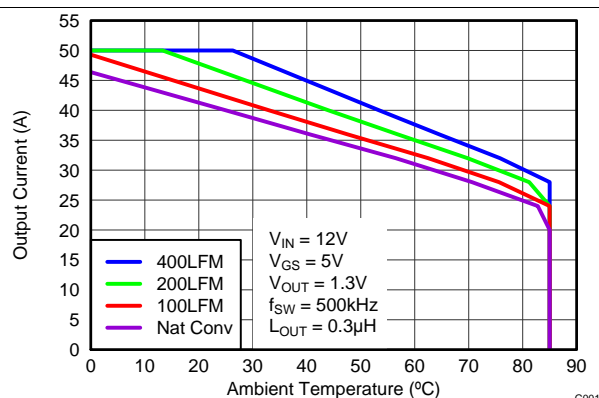
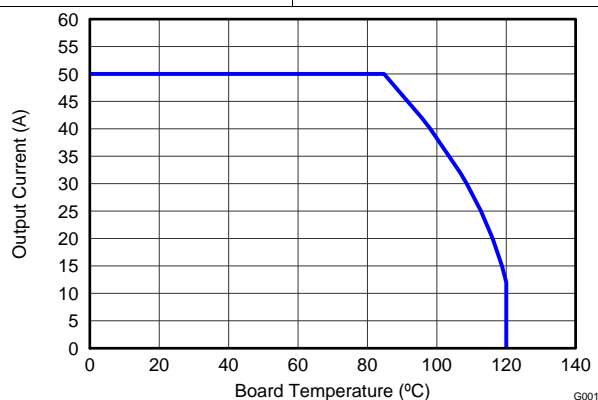

Figure 4. Safe Operating Area – PCB Vertical Mount ⁽¹⁾
Figure 6. Typical Safe Operating Area ⁽¹⁾
The SOA curves in the CSD86360Q5D data sheet provides guidance on the temperature boundaries within an operating system by incorporating the thermal resistance and system power loss. **Figure 4** to **Figure 6** outline the temperature and airflow conditions required for a given load current. The area under the curve dictates the safe operating area. All the curves are based on measurements made on a PCB design with dimensions of 4 in (W) × 3.5 in (L) × 0.062 in (T) and 6 copper layers of 1-oz copper thickness.